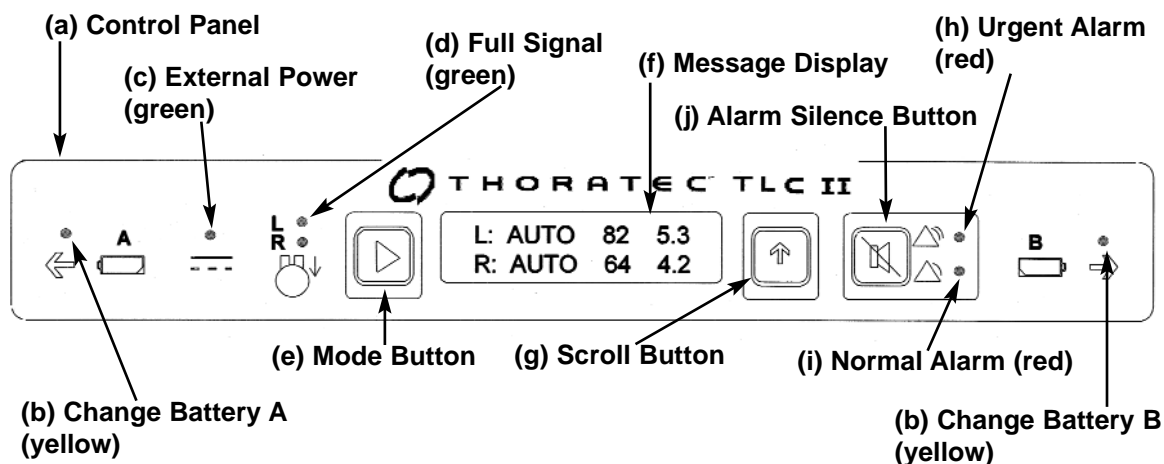

Figure 2.3 TLC-II Driver Control Panel
On the top of the TLC-II Driver (**Figure 2.3**) is the **control panel** (a) in **Figure 2.3**, which provides information about TLC-II function. On the sides of the control panel are 2 yellow **change battery** lights (b), 1 for battery A (on the left side) and battery B (on the right side), each of which illuminates when the rechargeable battery needs to be replaced with a fully charged battery. The green **EXT POWER** light (c) illuminates when the TLC-II is receiving external power. Two (2) green **FULL** lights (d) are provided to indicate when the LVAD (**L**) and RVAD (**R**) are completely full of blood, as detected by the full switch sensor in the VAD
The actual time depends on other conditions of use, including the VAD beat rate and the state of the battery. When the TLC-II is operating on two batteries, it uses one until it is depleted and then automatically switches to the other. The **change battery** light (b in **Figure 2.3**) next to the depleted battery lights up and a warning will sound every 30 seconds until the used battery is replaced or until an external power source is connected. A message is displayed on